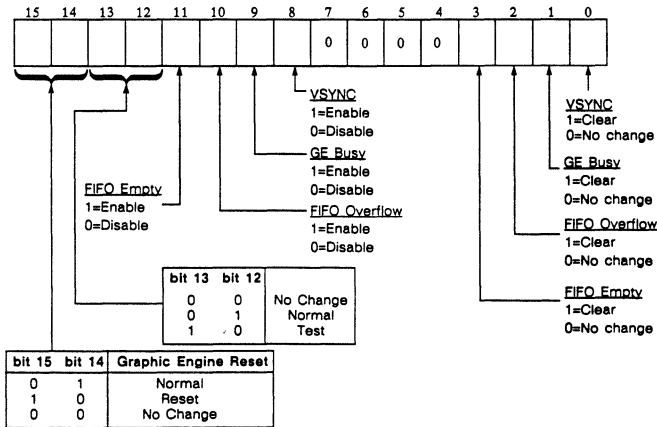

Figure 3-11. Interrupt Control Register (42E8h Write Only)
The Interrupt Control (IC) Register at address 42E8h is used for interrupt and reset control of the PWGA-1 FIFO and other CPU interface functions (see Figure 3-11). This register is write only and affects Bits 3-0 of the Interrupt Status (IS) Register (see "Interrupt Status Register" in this chapter). The IS Register is a read only register also at address 42E8h.
**Graphic Engine** Bit 1 puts a 0 in the GE busy status bit of the IS Register that can be read at (GE) Busy address 42E8h.